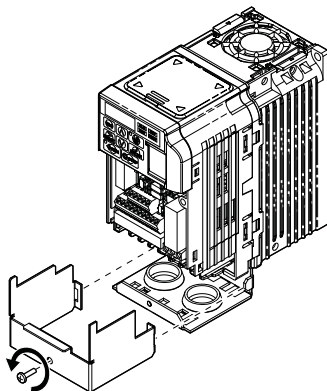

Figure 8 Remove the UL Type 1 Terminal Cover (CIMR-V□BA0001F to BA0003F, 2A0001F to 2A0006F)
6. For IP20/UL Type 1 enclosure models CIMR-V□□A□□□□F, loosen the screw on the front of the terminal cover and remove it from the drive. Refer to **Figure 8** for details.